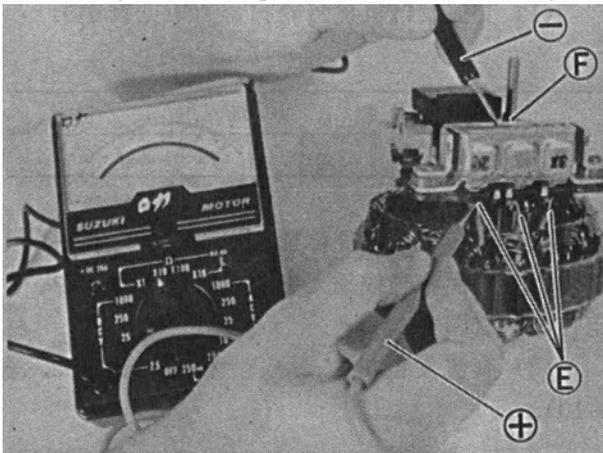

Fig. 9-59
(2) Check negative diodes (fig 9-59)